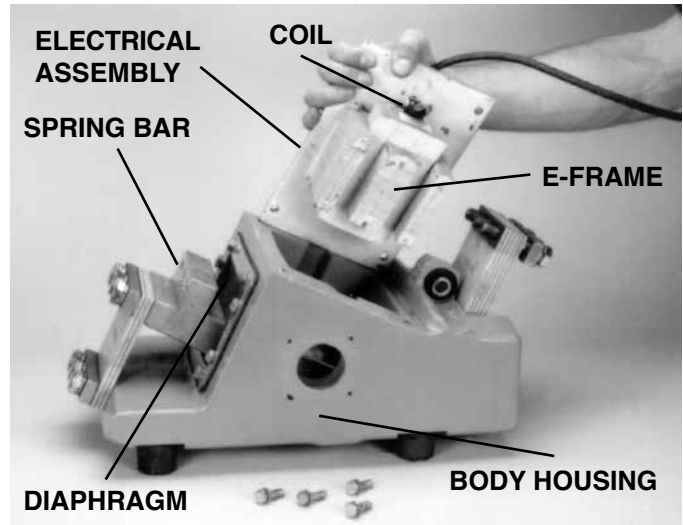

FIGURE 7
3. Remove the bolts securing the electrical assembly to the body housing and lift the assembly out of the body housing (see Figure 7)